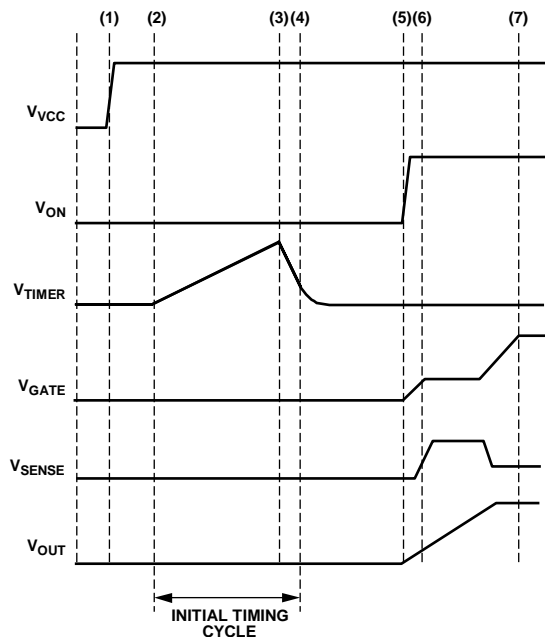

Figure 33. Startup (ON Asserts After Power Is Applied)
At this point, the FET gate is charged up with a 12  $\mu\text{A}$  current source. At Time Point (5), the threshold voltage of the FET is reached, and the load current begins to flow. The FET is controlled to keep the sense voltage at 100 mV (this corresponds to a maximum load current level defined by the value of  $R_{\text{SENSE}}$ ). At Time Point (6),  $V_{\text{GATE}}$  and  $V_{\text{OUT}}$  have reached their full potential, and the load current has settled to its nominal level. Figure 33 illustrates the situation where the ON pin is asserted after  $V_{\text{VCC}}$  is applied.